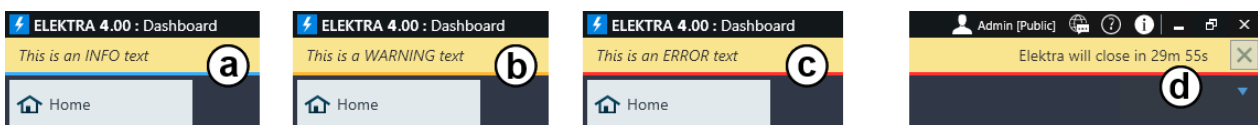

Figure 4-193: Examples of messages as seen in a remote client
As a remote client, you can delete an "Info", "Warning" or "Error" message (labeled a to c in Figure 4-193) by clicking the "X" button at the far right of the message dialog. You cannot delete a shutdown message (d), where the "X" button is disabled.
When you select "Close All Clients" (6), each client gets your shutdown message with a red underline. Also, the clients get a countdown that shows the remaining days, hours, minutes and seconds at the far right of the message dialog, see (d) in Figure 4-193. While a closing procedure is running, you cannot send other messages.